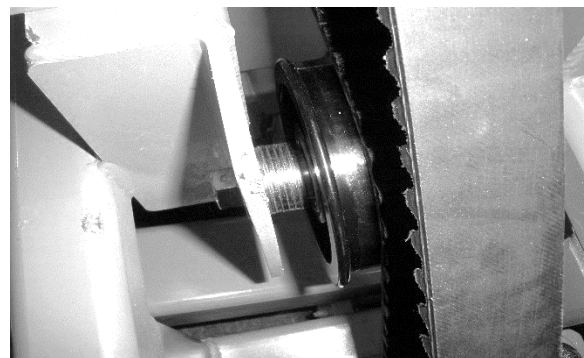

Figure 2—Use the provided washers to center the pulley under the belt.
2. Determine the appropriate number of washers to install on either side of the pulley to center the pulley on the head drive belt. See **Figure 2**.